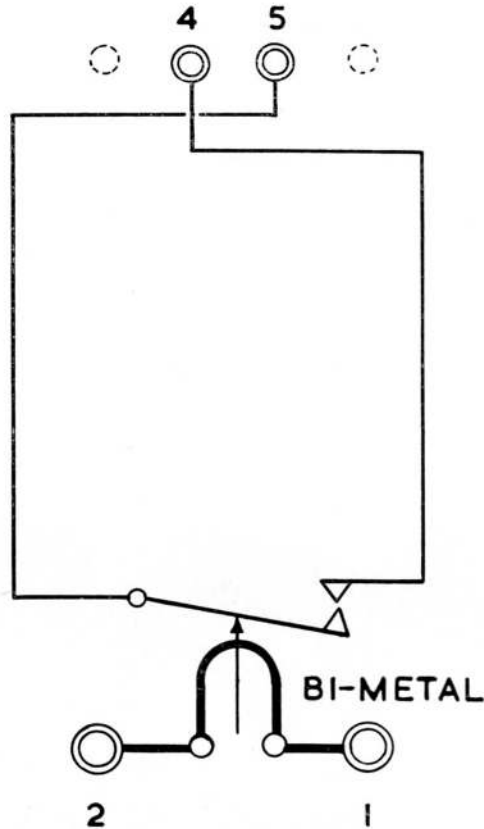

Fig. 2. Diagram of internal connections
3. Information covering the functioning and servicing of the unit will be found in the above mentioned chapter (*para.* 2) whilst details of operation and installation will be found under Leading Particulars. A diagram of internal connections is given in fig. 2.